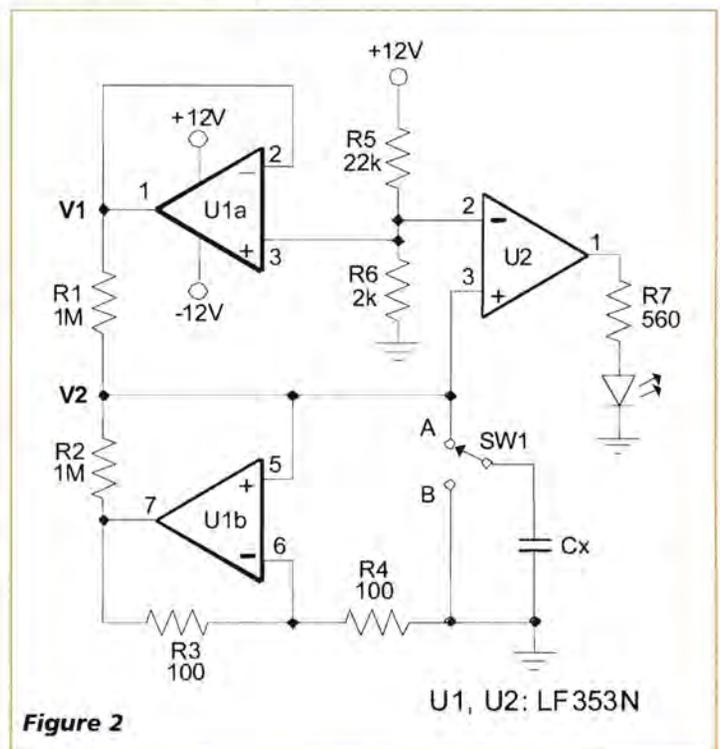

Figure 2
This means that instead of the exponential rate of change of the capacitor voltage (V2), it increments linearly according to the values of V1, R and C. This idea is employed in the circuit of **Figure 2** where V1 is the buffered output of U1a. U1b along with R2, R3 and R4 combine to form a negative resistor whose magnitude is equal to R1. Cx is the unknown capacitance. Lastly, U2 is a comparator whose threshold voltage (VT) is set by R5 and R6.